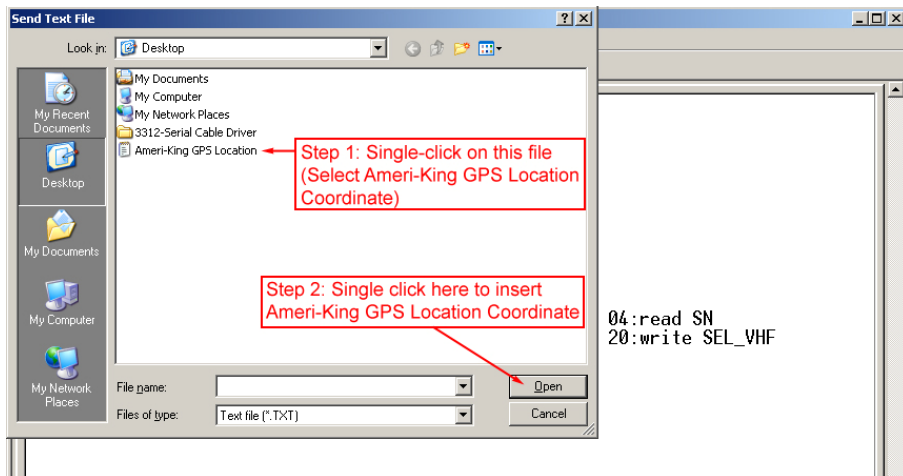

Figure 9
- **Inserting Ameri-King GPS Location Coordinate (See Figure 9)**